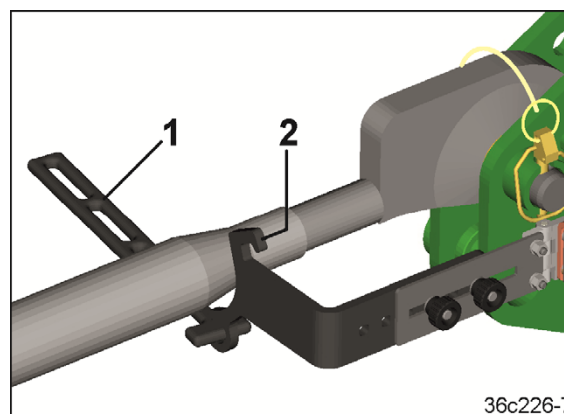

Fig. 120
4. Hook the tensioning element (Fig. 120/1) onto the top link bracket (Fig. 120/2).